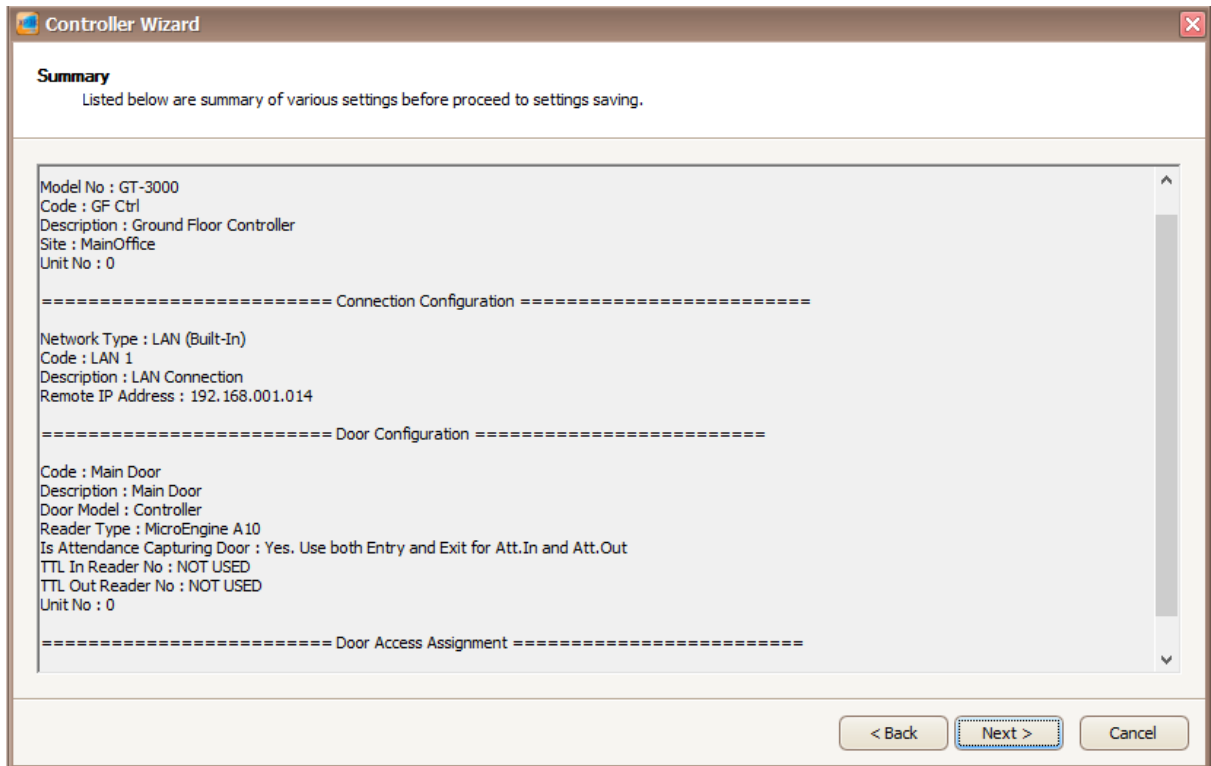

Figure 41 - Controller Wizard Summary
19. The following screen will be shown (Refer **Figure 41**).